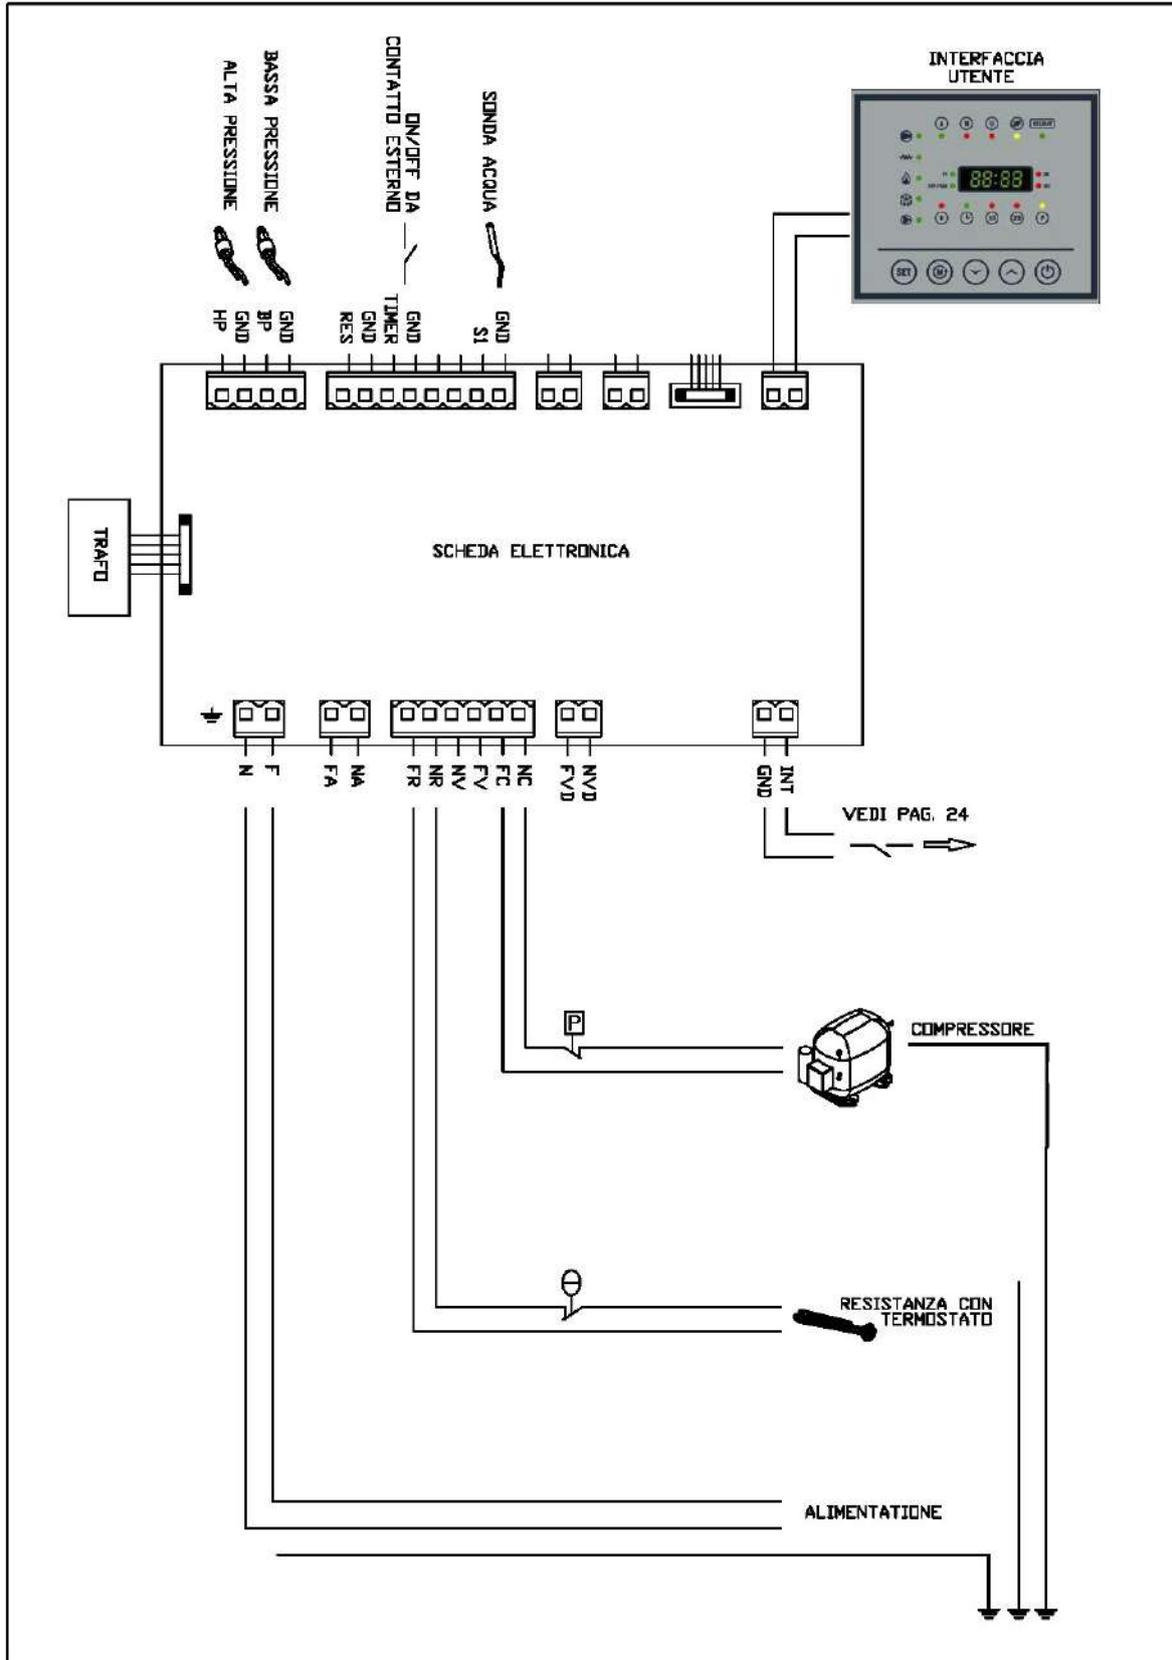

Fig.19
5.3 DESCRIZIONE INGRESSI/USCITE SCHEDA ELETTRONICA (Fig.19)